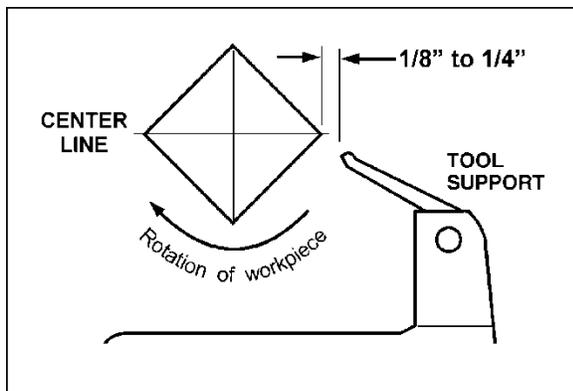

Figure 10-5
10. Move tool support into position. It should be parallel to the workpiece, just below the centerline and approximately 1/8" to 1/4" from the corners of the workpiece to be turned, as in Figure 10-5. Tighten support base to lathe bed.